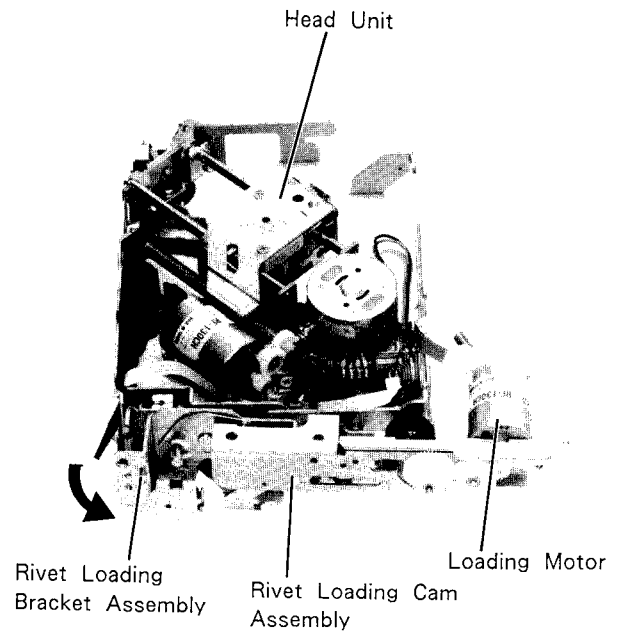

Figure 15
(1) After removing the Pick-Up Unit, pull the Rivet Loading Bracket Assembly toward you while twisting it in the direction shown by the arrow, as shown in Figure 15.